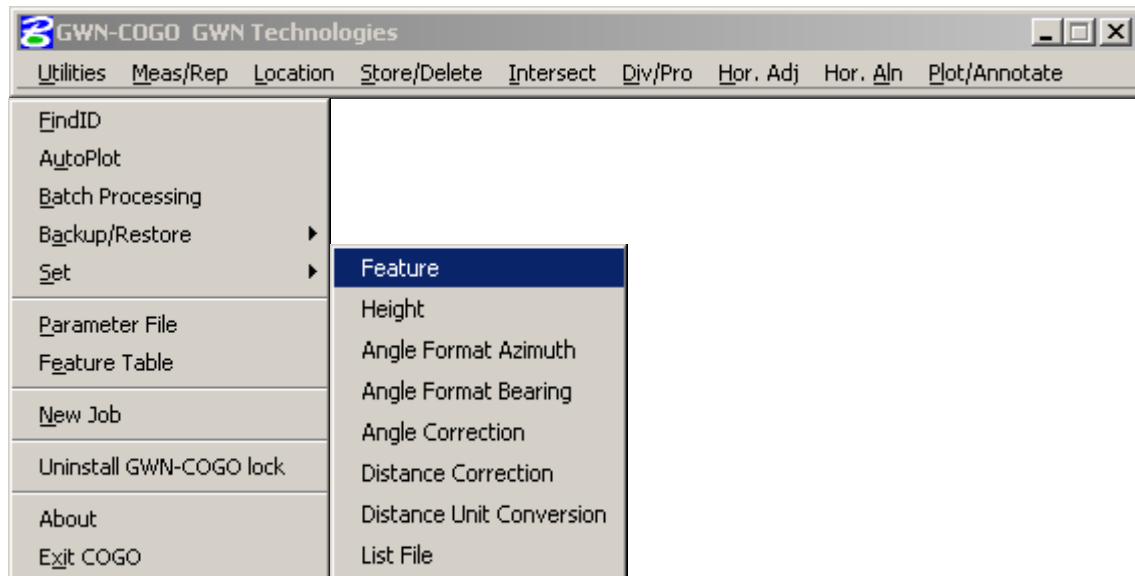

Figure 10.1: Utilities Pulldown Menu and Set Sub-Menu
1. From the main menubar, select from the **[Utilities]** pulldown the **[Set]** item, then the **[Feature]** item of the sub-menu which will appear as seen (separated from the pulldown menu) in Figure 10.1. Or, keyin “**Set Feature** <cr>” at the command prompt of the MicroStation command window.